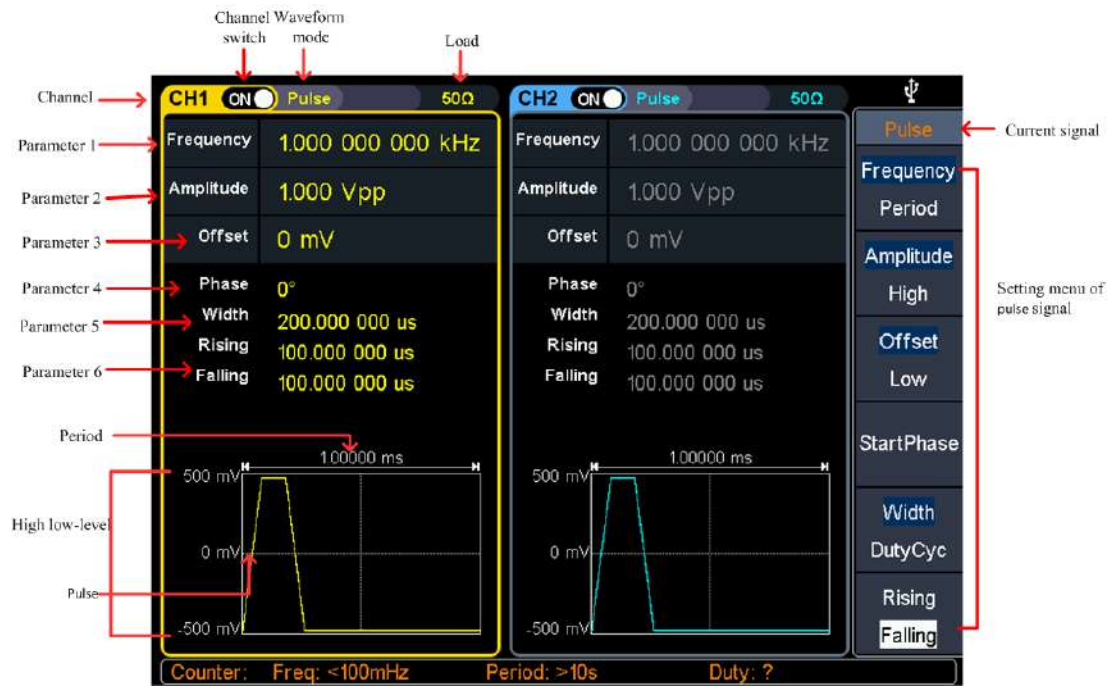

Figure 5-6: Pulse wave user interface
- (1) Press the **Symmetry** softkey to select the **Symmetry** menu item. Figure 5-6
- (2) Use the **knob** to change directly, the value in **parameter 1** of Figure 5-6; Or
Press the **rise time / fall time** soft key to select the "rise time / fall time" menu item, as shown in Figure 5-6, parameter 6 shows the current value of the rise/fall time; press the **rise time / fall time** key to switch between the current display. Parameter value.